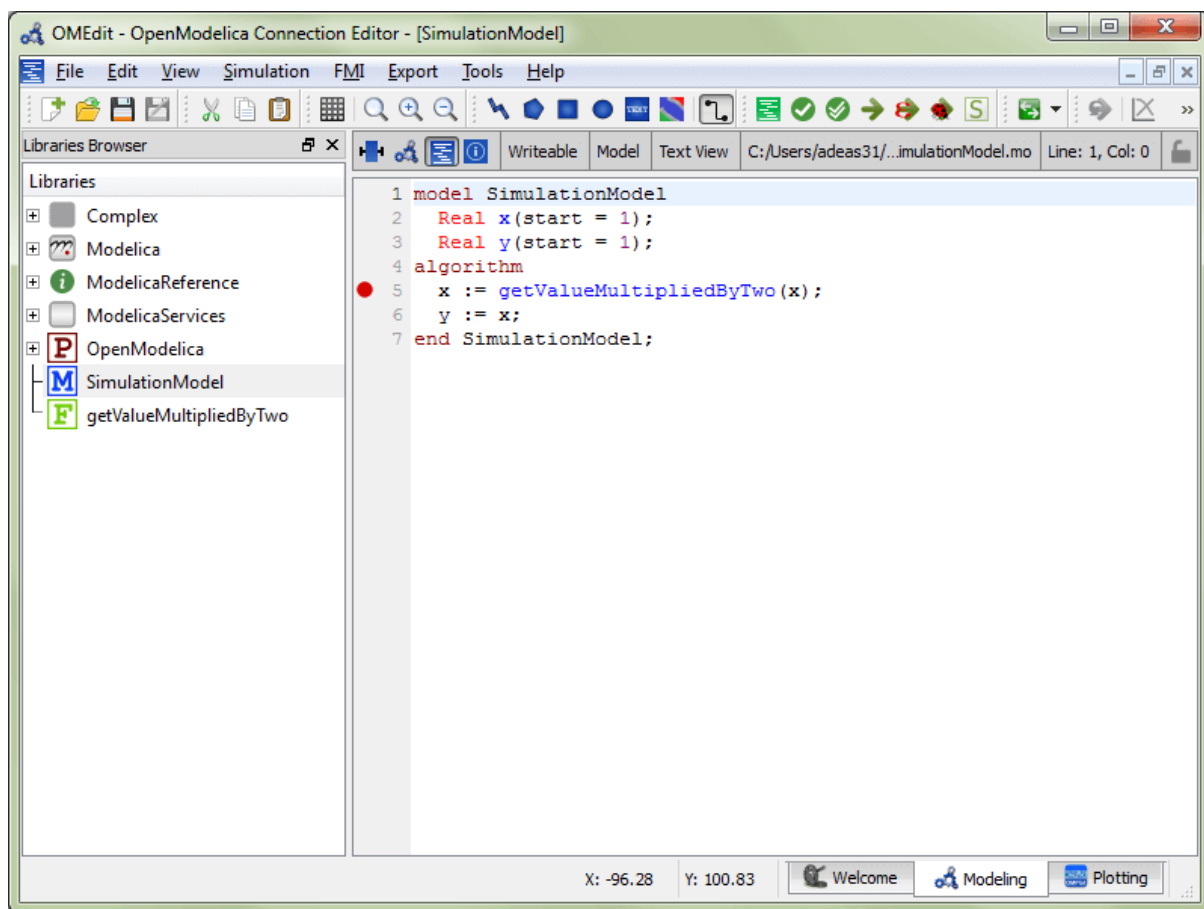

Figure 4.3: Adding breakpoint in Text View.
- Click directly on the line number in Text View, a red circle is created indicating a breakpoint as shown in Figure 4.3.